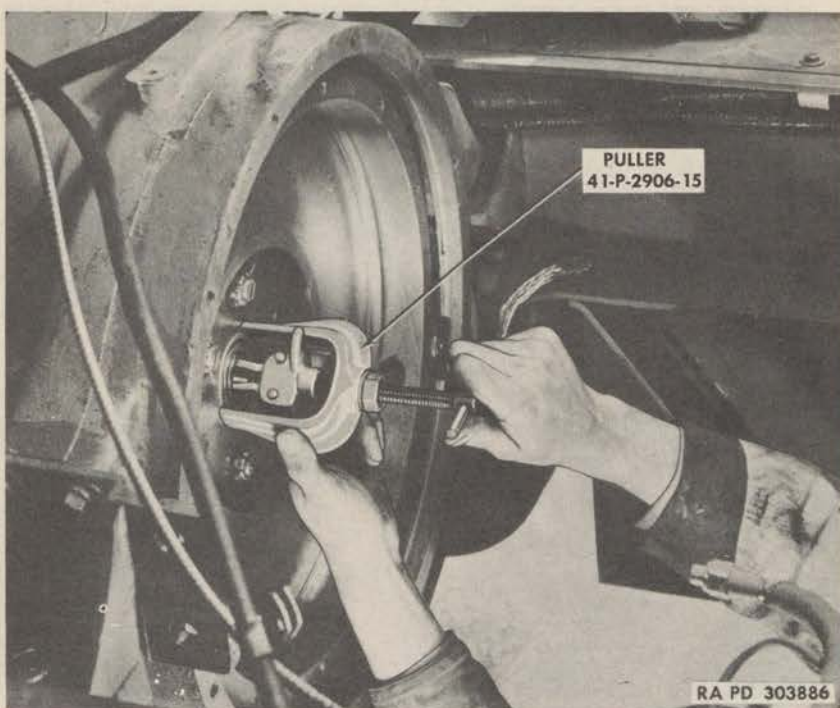

Figure 63—Pulling Clutch Pilot Bearing with Puller 41-P-2906-15
d. **Remove Clutch Pilot Bearing.** If it is necessary to remove the clutch pilot bearing, it may be pulled, using clutch pilot bearing puller (41-P-2906-15) (fig. 63).